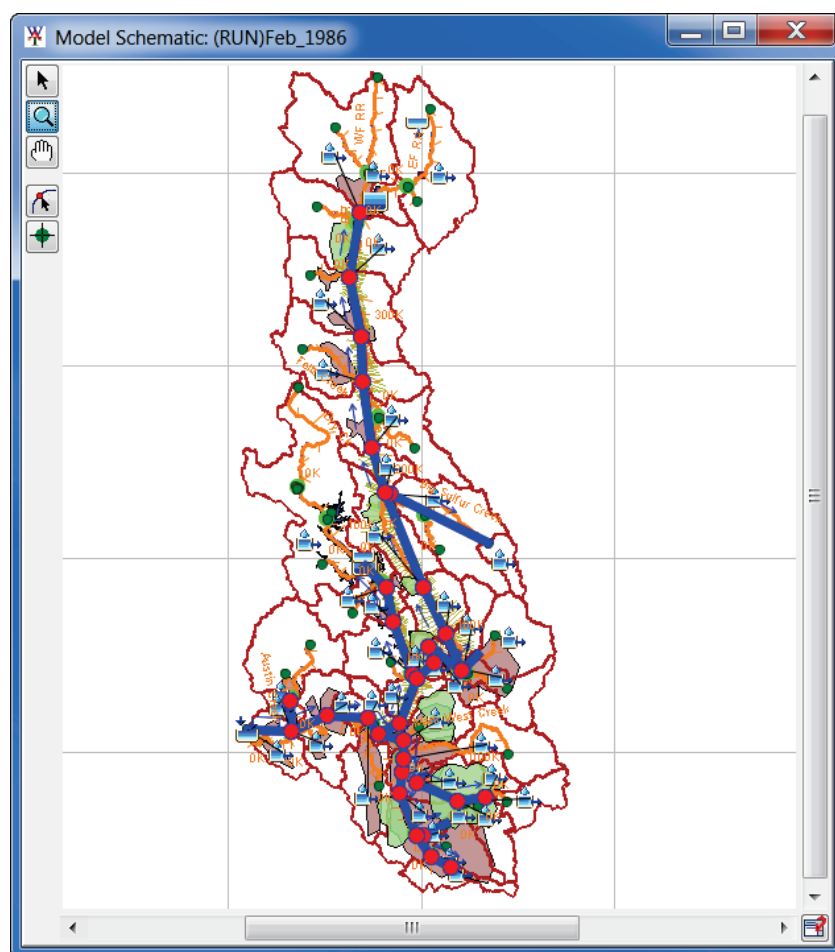
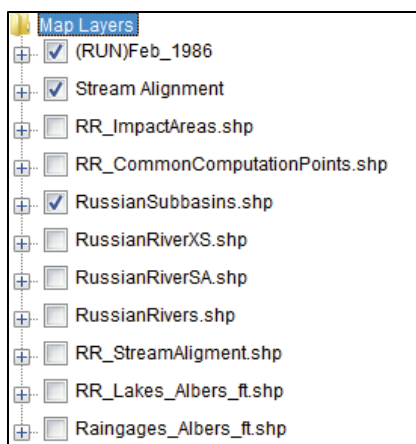

**Figure K.5** HMS Junction to Stream Mapper Dialog Box
**Figure K.6** Study Tree – Models Node - HMS
2. The **HMS Junction to Stream Mapper** dialog box will open (Figure K.5). This dialog box is not from HEC-HMS, but from HEC-WAT. Since the current version of HEC-HMS does not recognize the coordinate system that HEC-WAT has for a study, this dialog box allows the user to enter information that will give the HEC-HMS junction graphical element the correct geographic location on the schematic.
3. From the **Model Alternative** list (Figure K.5), select an HMS model alternative (i.e., *(RUN)Feb\_1986*). This should be the HMS model alternative associated with the active HEC-WAT simulation displayed in the **Map Window** (Figure K.1).
4. From the **Study Tree** (Figure K.6), expand the **Models** node. Select **HMS**, from the **Content Pane** (Figure K.6), double-click on the HMS model alternative (i.e., *HMS:(RUN)Feb\_1986*) that has been selected in the **HMS Junction to Stream Mapper** dialog box (Figure K.5). A map window will open (Figure K.7) that displays the selected HMS model alternative.
6. In Figure K.5, for example, the first junction (i.e., *Ukiah Confluence*), is it on the correct stream? After reviewing the map window (Figure K.7), the selected stream (i.e., *EF RR*) is not correct. To review the first junction on the map window (Figure K.7), zoom in to the first junction location (Figure K.9), which is the first red circle located in the upstream end of the study area. Select  (**Stream Node Tool**), right-click on the red circle, from the shortcut menu click **Edit Junction**, the **Stream Junction Editor** will open (Figure K.9). The HMS junction happens to be at a confluence of three streams, and an HEC-WAT stream junction is at that same location
8. From the **HMS Junction to Stream Mapper** dialog box (Figure K.5), from the **Stream** column, for the first HMS junction (i.e., *Ukiah Confluence*), from the list select *RR*. From the **Station** column (Figure K.5), for the first HMS junction, enter 353,537.8.
9. For the rest of the HMS junctions, the user may have to repeat Steps 6 through 8, if the stream or the stationing is not correct for an HMS junction. What happens there is no stream node or junction for a location? The user will need to add a stream node/junction at that location (Appendix F, Section F.3.2). Once the stream station has been entered into the **HMS Junction to Stream Mapper** dialog box (Figure K.5), the user will need to remove the stream node/junction from the schematic. This has to be done, because any changes to the stream stationing will affect an HEC-ResSim model alternative.
7. From the **Study Tree** (Figure K.6), expand the **Models** node. Select **HMS**, from the **Content Pane** (Figure K.6), double-click on the HMS model alternative (i.e., *HMS:(RUN)Feb\_1986*) that has been selected in the **HMS Junction to Stream Mapper** dialog box (Figure K.5). A map window will open (Figure K.7) that displays the selected HMS model alternative.